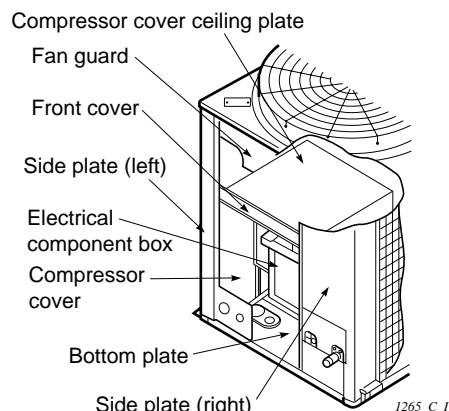

Fig. 1
- (1) Remove the fan guard shown in Fig. 1 (4 screws).
- (2) Remove the cover in front of the compressor cover ceiling plate (2 screws).
- (3) Remove the compressor cover ceiling plate (2 screws). Lift up the left side of the ceiling plate and with the ceiling plate tilted, pull it out.
- (4) Remove the electrical units and control lines from the terminal plates.
- (5) Disconnect the connector connected to the outdoor unit PCB from inside the unit. (Solenoid, thermostat, fan motor, crank case heater, etc.)
- (6) Remove the electrical component box (4 screws).
- (7) Remove the screws holding the compressor cover main unit and shift it to the rear.